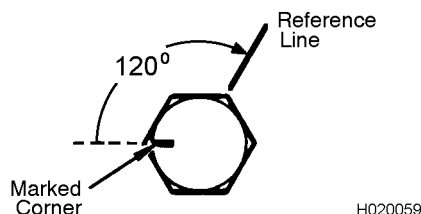

FIGURE 2-7. REFERENCE MARKS FOR 120 DEGREE ADVANCE
2. Attach a hydraulic bead breaker to the rim by slipping the jaws of frame assembly over the outer edge of flange (7, Figure 2-7). Make sure the jaws of the frame are as near to the bead seat band (6) as possible.
5. After bead is broken loose, insert flat of tire tool in beading notch on lockring (8). Pry lockring up and out of groove on rim.
6. Pry in on bead seat band (6) until O-ring (9) is exposed. Remove O-ring.
7. Remove bead seat band (6) from rim (5) and remove flange (7).
For the bottom four capscrews (6, Figure 2-3), initially tighten the capscrews to **100 ft. lbs. (136 N.m)**, then advance the capscrew head 120° using steps d-1) through d-3). Refer to Figure 2-7.